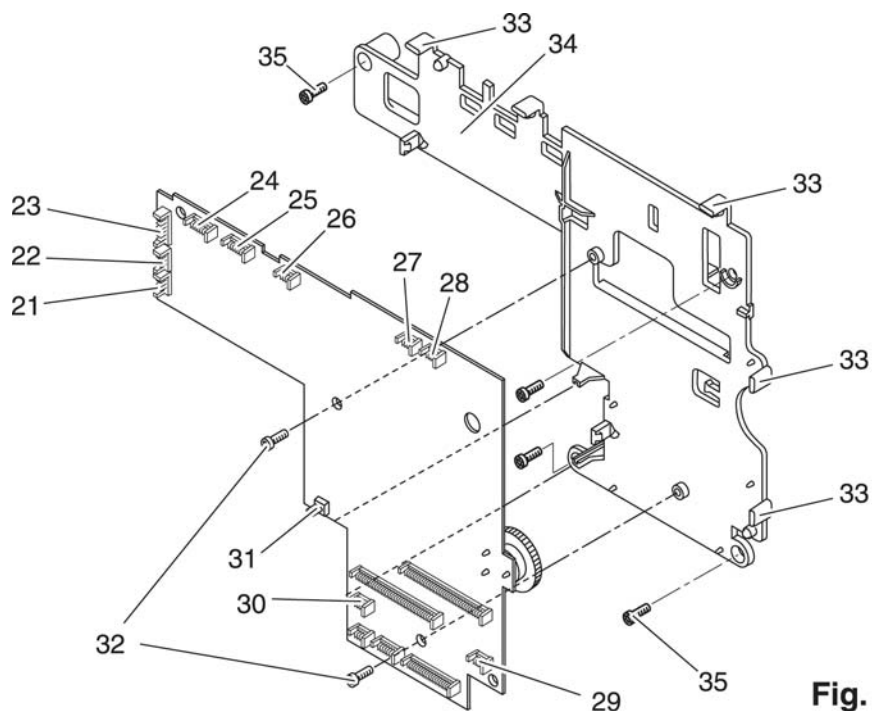

Fig. 10
- Disconnect the eleven connection plugs 21 to 31 of the flat cables from the circuit board (fig. 10).